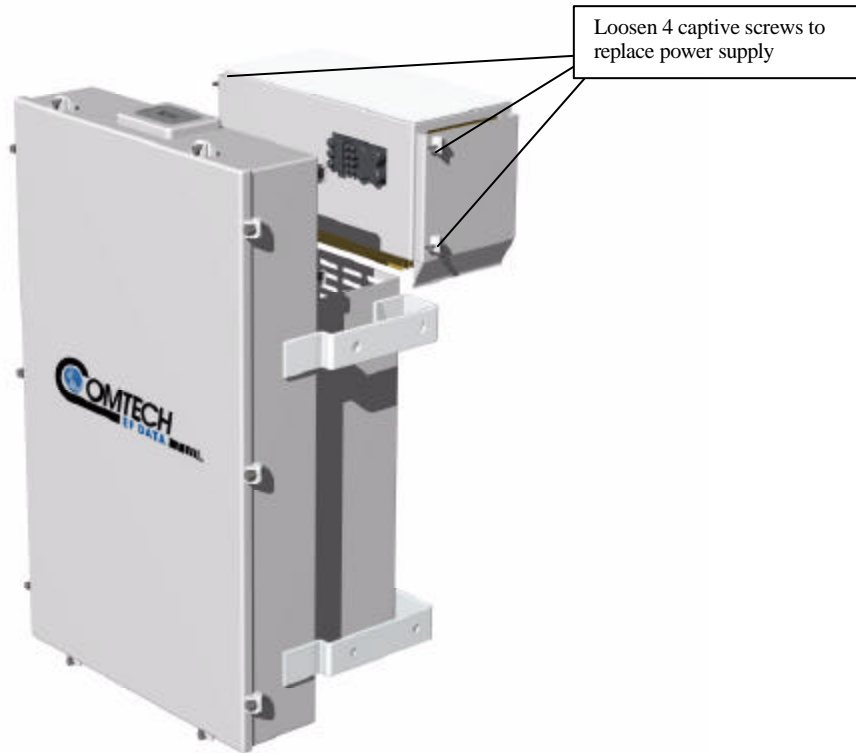

Figure 5-1. Power Supply Replacement
2. Loosen the four captive fasteners as indicated in Figure 5-1. Be certain to use an appropriate screwdriver, such as the one provided with the SSPA, to avoid damaging the fasteners.
5. Tighten the four captive fasteners as indicated in Figure 5-1. Be certain to use an appropriate screwdriver, such as the one provided with the SSPA, to avoid damaging the fasteners.